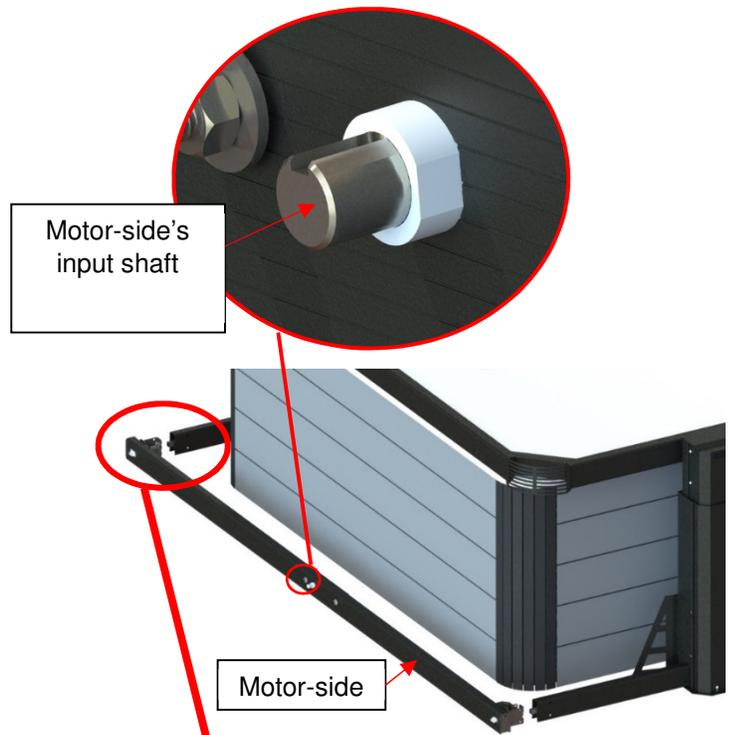

Figure 79
- 7) Slide the other end of the left square drive-shaft over the square shaft located at the end of the motor-side. (Figure 79)
Note: You might need to rotate the output shaft of the motor-side assembly so both output shaft and drive shaft align well. If so, proceed as shown in Figure 79 using an adjustable wrench to rotate the output shaft.